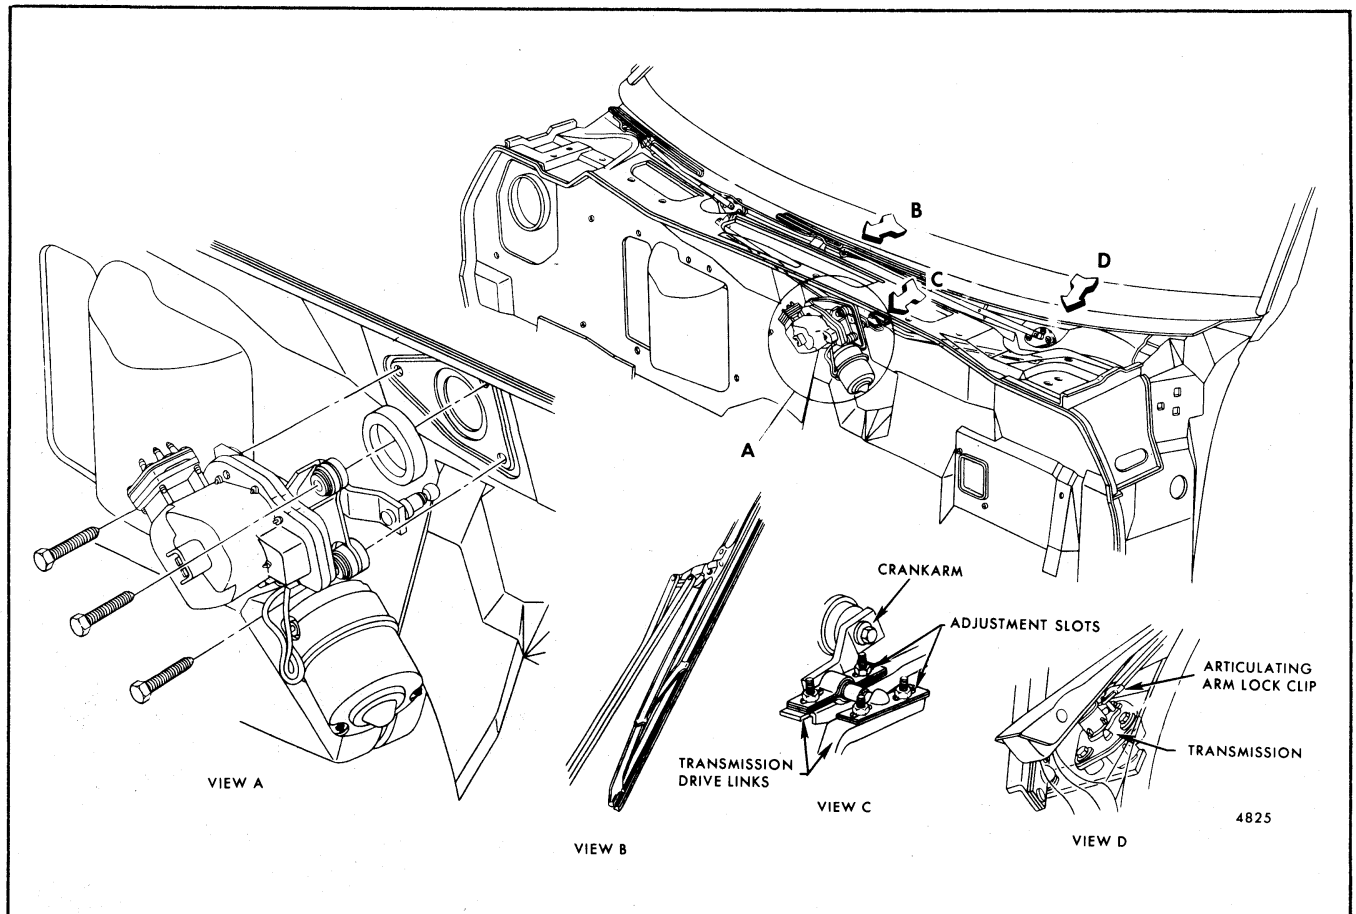

Fig. 2-32-Round Motor Installation - "B-C-D-E" Styles
5. On left arm, slide articulating arm lock clip away from transmission pivot pin (Fig. 2-32) and lift arm off pin.
3. Loosen, do not remove, the transmission drive link to motor crank arm attaching nuts (Fig. 2-32 or 2-33). On "B, C, D and E" styles, if only one arm and blade assembly requires adjustment, loosen only the drive link to crank arm attaching nuts for the unit requiring adjustment.
3. Loosen (do not remove) attaching nuts securing transmission drive link(s) to motor crank arm (Fig. 2-32 or 2-33).
9. Install transmission drive link(s) to motor crank arm and tighten attaching nuts to 25 to 35 inch-pounds torque (Fig. 2-32 or 2-33).